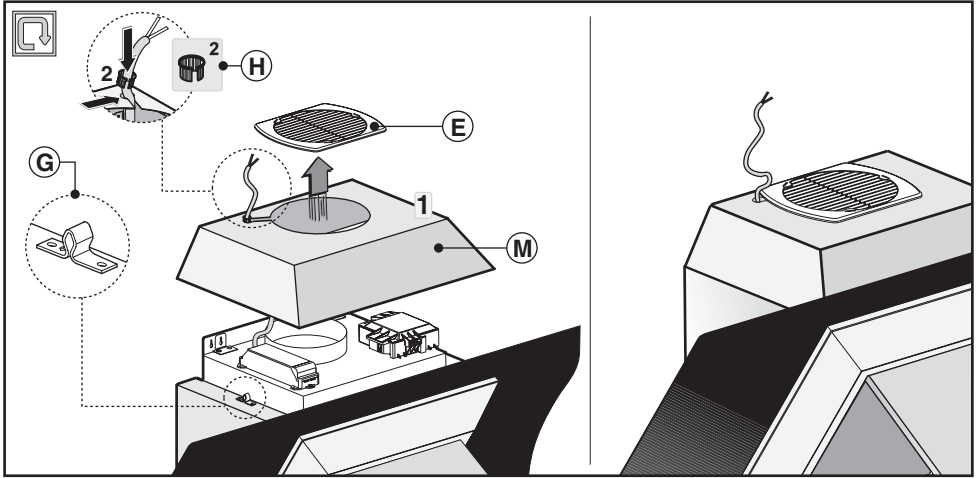

Fig.8
- Fix the small cupola **M** and the grille **E** making sure that it is perfectly hooked on to the fastening pins **G** (Fig.8).